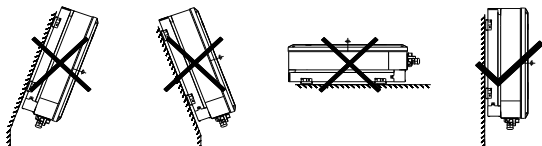

Figure 5.2 Installation position
- (1) The environment temperature is between  $-25^{\circ}\text{C}$  and  $60^{\circ}\text{C}$ .
- (2) The installation surface is perpendicular to the horizontal line. Refer to the Figure 5.2.